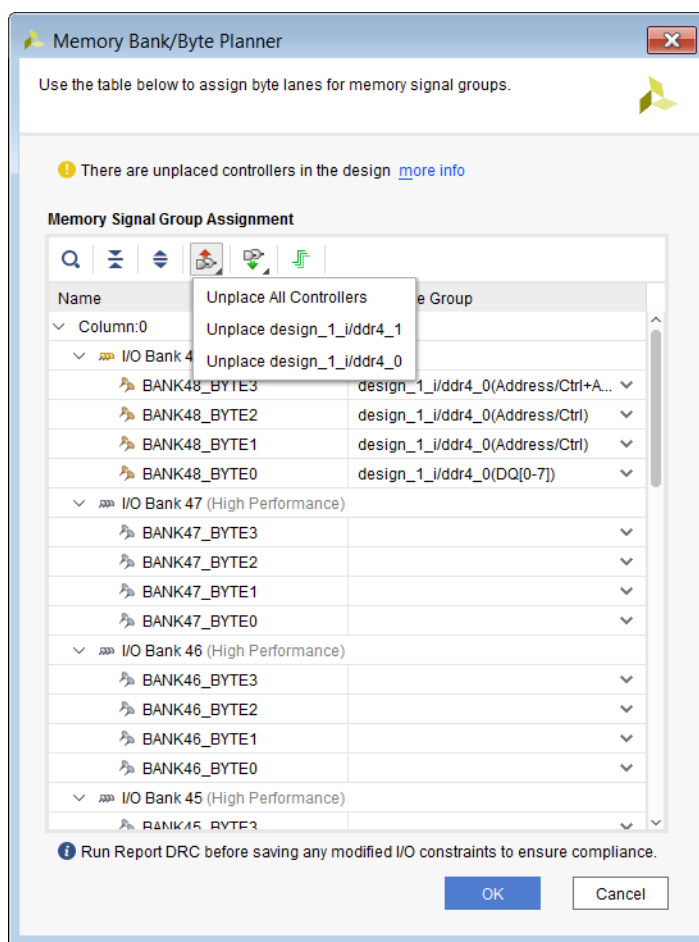

Figure 4-16: Unplacing Memory Controllers
2. Select **Unplace All Controllers** or **Unplace <controller name>** (Figure 4-16).